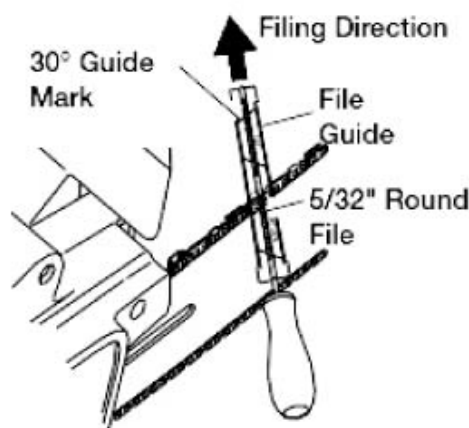

Figure 12
3. Press 5/32" round file (attached to file guide) into groove between top plate and depth gauge on chain. File guide should rest on both top plate and depth gauge (see **Figure 12**). (Note: File at midpoint of guide bar.)